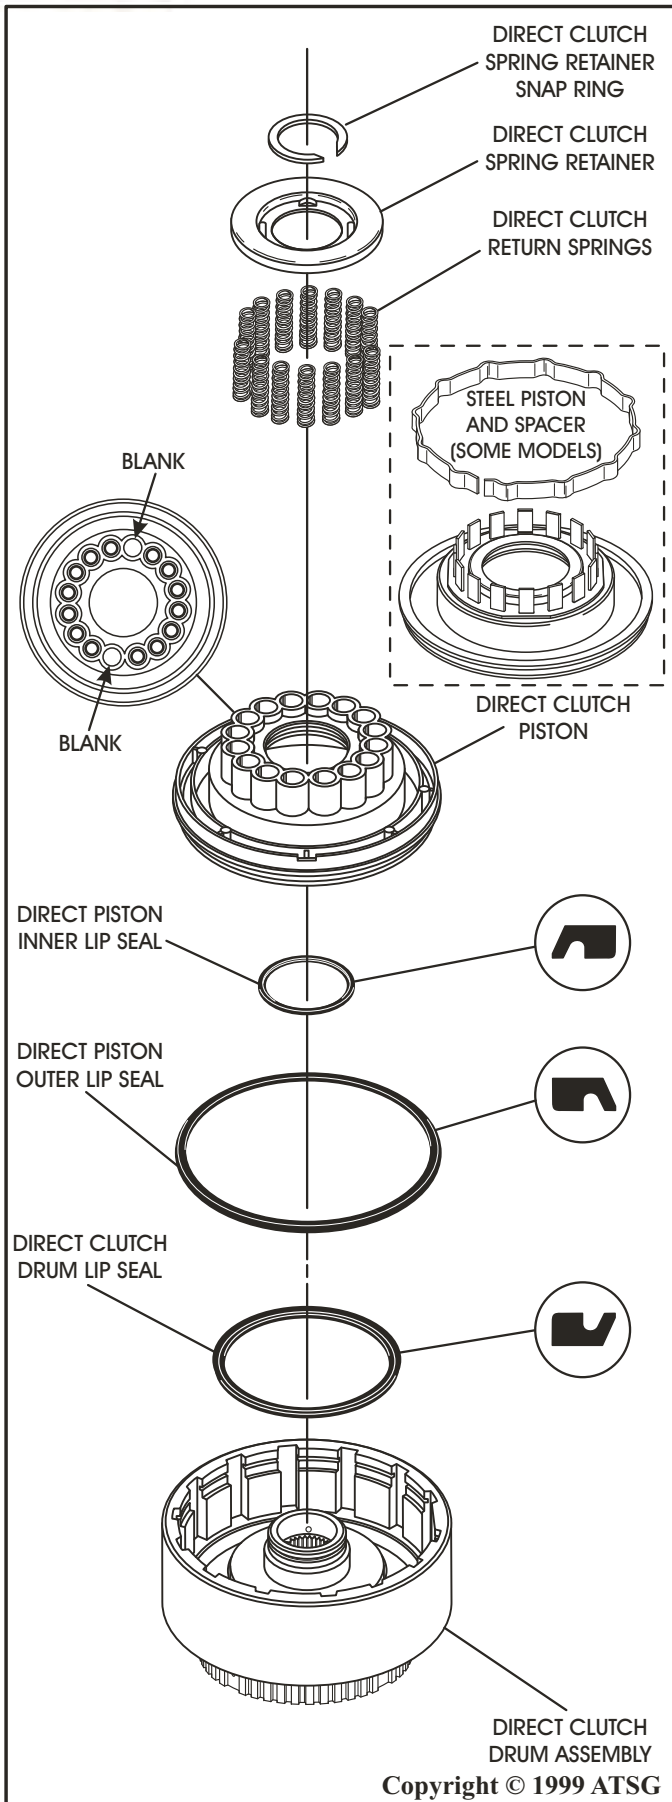

Figure 79
6. Install new direct drum lip seal into the groove in direct drum, with the lip facing the direction shown in Figure 79, and lubricate with a small amount of TransJelö.
7. Install new direct clutch piston outer lip seal in groove of direct clutch piston, with lip facing the direction shown in Figure 79.
8. Install new direct clutch piston inner lip seal in groove of direct clutch piston, with lip facing the direction shown in Figure 79.
Note: Some models use a stamped steel direct clutch piston and spacer (See Figure 79).
13. Install the 14 direct clutch piston return springs into the cavities in the piston in the positions shown in Figure 79, leaving two blank pockets 180 degrees from one another.
14. Install the direct clutch return spring retainer on top of the springs, and lay the snap ring on top of the retainer (See Figure 79).